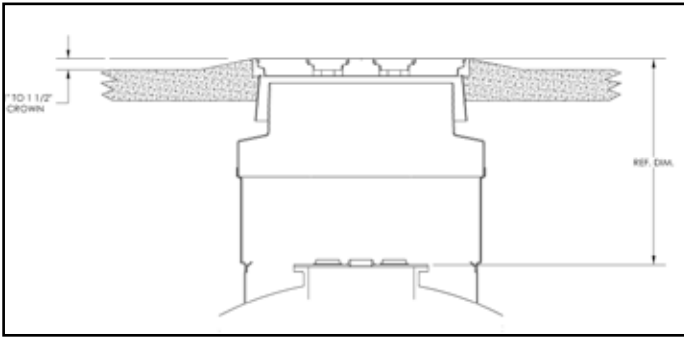

Figure 1:
2. Establish the height (or elevation) of the FL-100 access cover. The cover is typically installed 1" to 1½" higher than the surrounding tank slab to facilitate drainage (Figure 1). The reference dimension used for all the riser calculations **is the distance between the top of the cover and the top of then tank manway.**